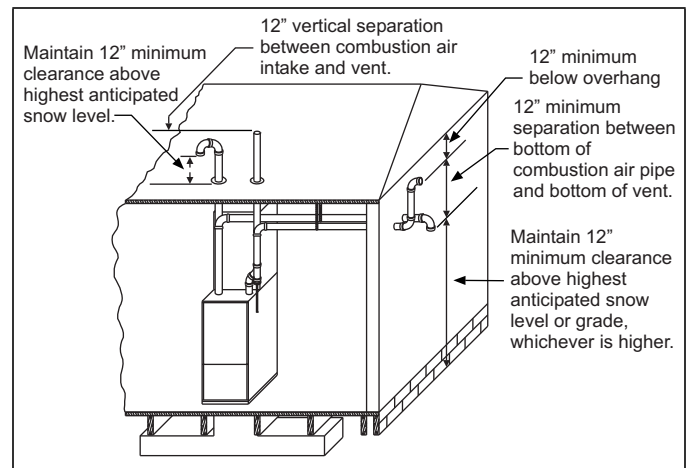

FIGURE 25: Termination Configuration - Two Pipe
- Direct vent systems must be installed so the vent and the combustion air pipes terminate in the same atmospheric zone. See Figures 25 and 26.
- **OUTDOOR COMBUSTION AIR:** This is a direct vent configuration where the combustion air is supplied through a PVC or ABS pipe that is connected to the PVC coupling attached to the furnace and is terminated in the same atmospheric zone as the vent. This type of installation is approved on all models. See Figures 25 and 26.